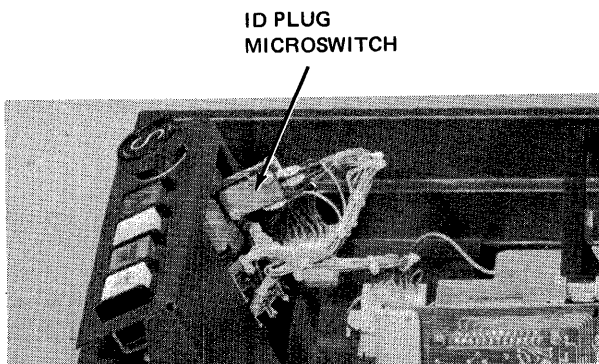

Figure 5-5. Identification Plug Microswitch
- Adjust ID plug microswitch to ensure contact closure when ID plug is fully inserted (see Figure 5-5).